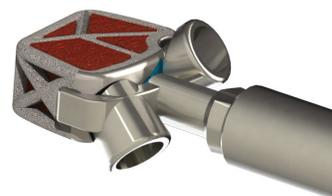

Figure 6.3
- ▲ Pack the implant with autologous and/or allogenic bone graft. For best results, cut or morselize the bone graft into 1–2mm sized particles. Place the morselized bone into the top or bottom web structure (top and bottom are interchangeable). In a downward, circular motion, massage the graft particles into the implant (Fig. 6.3 and 6.4).